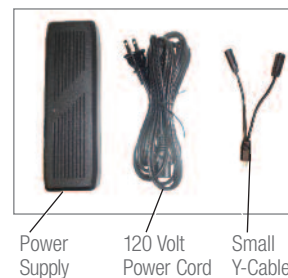

FIGURE 9
- Locate the motor connector behind the power motion-modular unit (FIGURE 9). If assembling a unit with a lighted cup holder proceed to step 12.